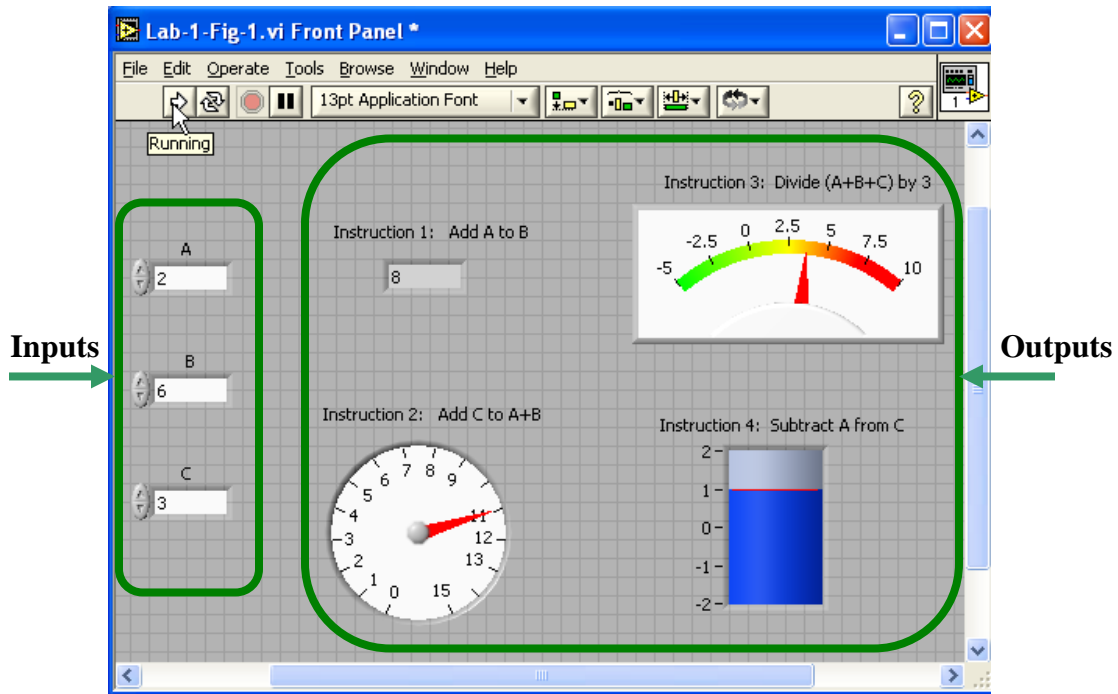

Fig. 1-3. *Front Panel of LabView: GUI of Figure 1-1a showing inputs and outputs.*
- 2) the graphical user interface (GUI), appearing in a separate window, as shown in Fig 1-3.
In this example, the boxes on the left (labeled A, B, and C) in Figure 1-3 are CONTROLS (Inputs), and the various dial INDICATORS on the right are the Outputs.